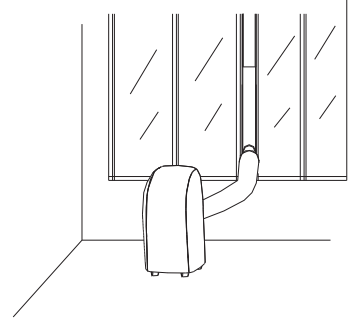

Fig. 11
12. Whole unit assembly well as Fig.11 drawing illustrated.